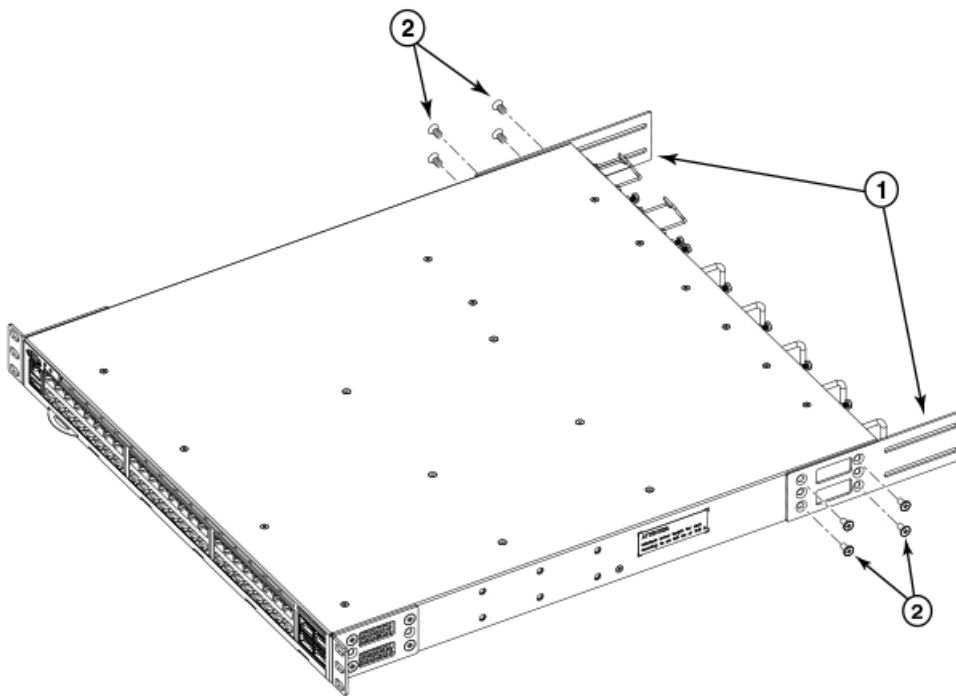

Figure 5. Attaching the bracket extensions to the device
2. Position the right bracket extension along the side of the device as shown in Figure 5.